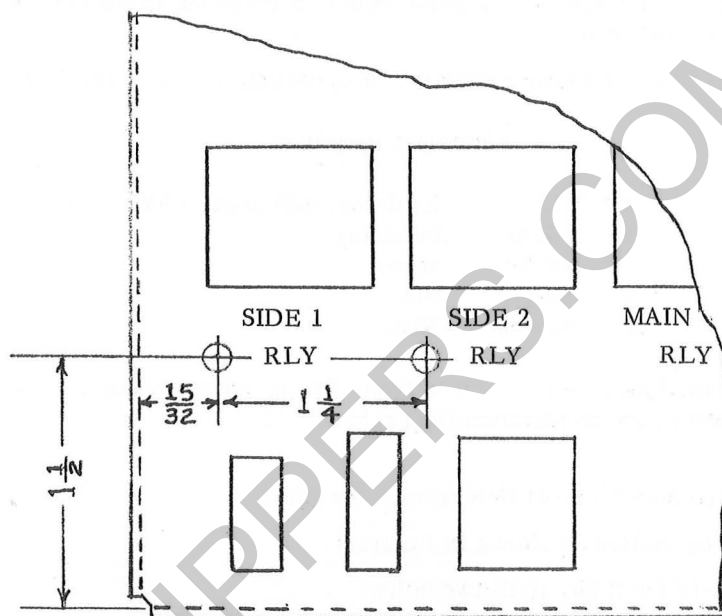

FIGURE 1 - HOLE LAYOUT
2. Layout holes to be drilled as shown in Figure 1 .